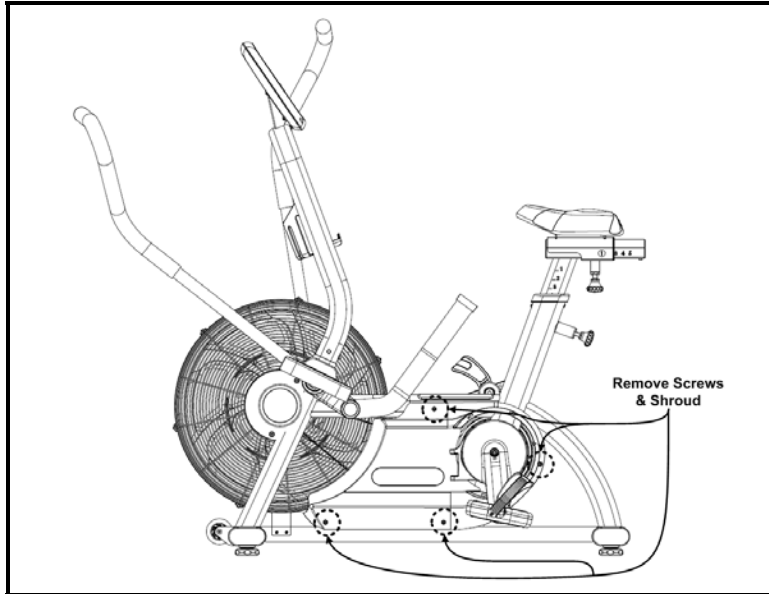

Fig. 4
- Gain access to the drive train from the user left side by removing the four phillips head screws (Fig. 4) with a phillips head screwdriver and taking off the large side shroud.